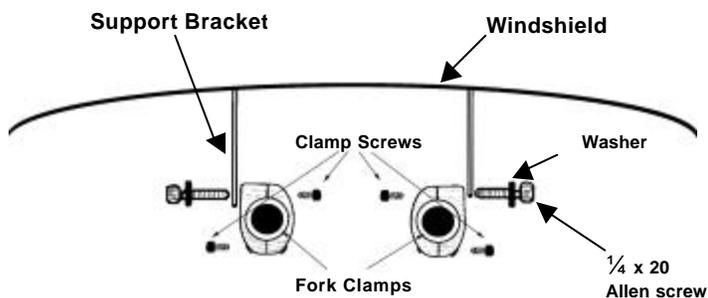

Figure 2
2. Loosely secure the windshield with the supplied 1/4 x 20 Allen screws and washers **See Figure 2.**